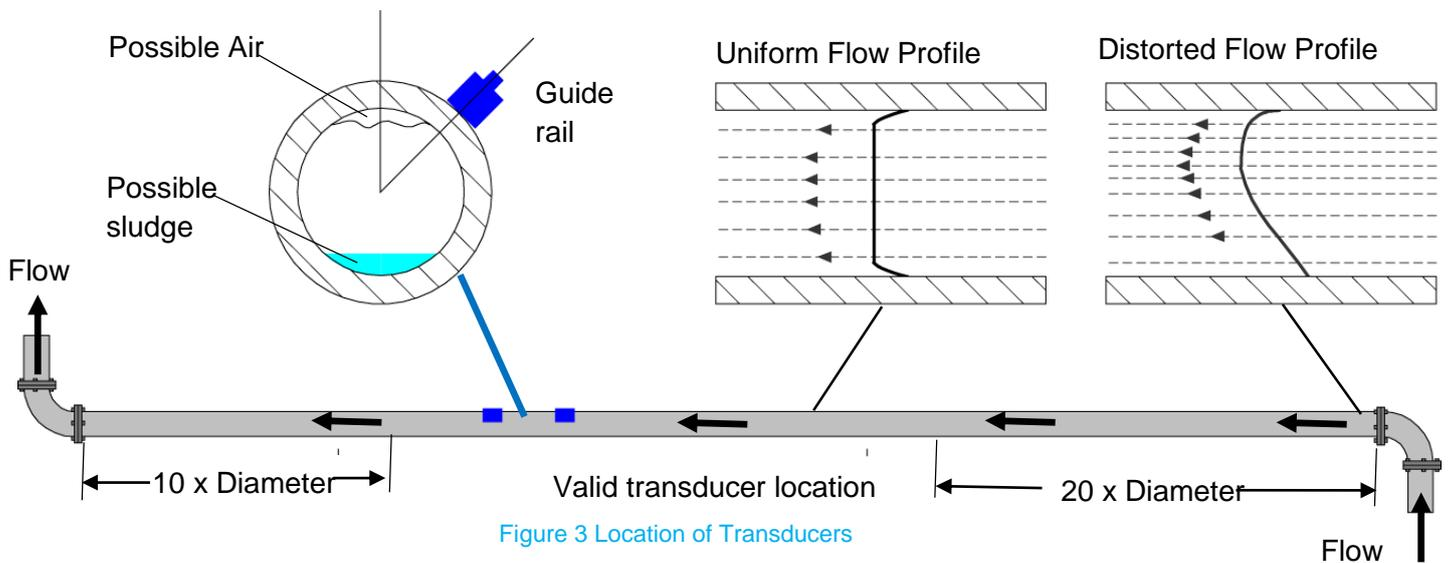

Figure 3 Location of Transducers
To obtain the most accurate results the condition of both the liquid and the pipe must be suitable to allow ultrasound transmission along the predetermined path. It is important that liquid flows uniformly within the length of pipe being monitored, and that the flow profile is not distorted by any upstream or downstream obstructions. This is best achieved by ensuring there is a straight length of pipe upstream of the transducers of at least 20 times the pipe diameter, and 10 times the pipe diameter on the downstream side, as shown in Figure 3. Flow Measurements can be made on shorter lengths of straight pipe, down to 10 diameters upstream and 5 diameters downstream, but when the transducers are mounted this close to any obstruction the resulting errors can be unpredictable.
1. Before attaching the transducers first ensure that the proposed location satisfies the distance requirements shown in Figure 3 otherwise the resulting accuracy of the flow readings may be affected. The unit is preconfigured for the application as follows :-